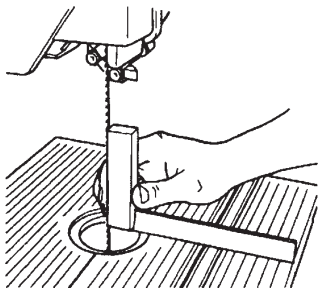

Figure A-21
5. Place a precision square along the side of the blade and on the table, as in Fig. A-21.